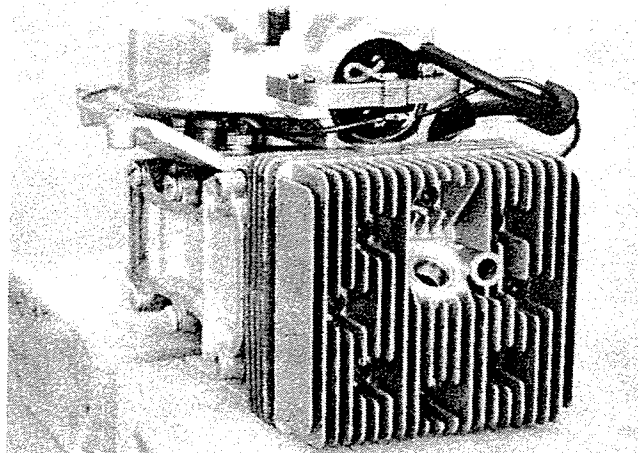

Figure 7. Removing Cylinder Head.
6. Remove cylinder head by removing eight (8) screws and washers. Figure 7.